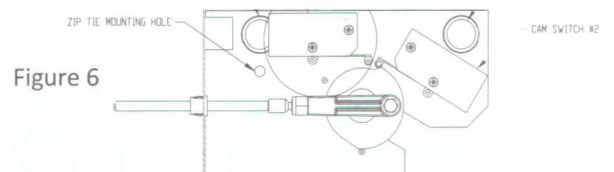

Figure 6
**\*NOTE: Dual Switch Replacement:** (See Figure 6)